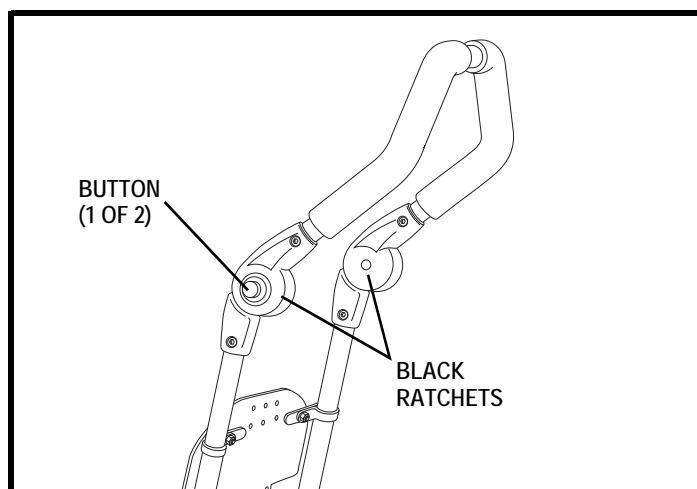

Figure 52. Handlebar Angle Adjustment
1. Press the buttons on the black ratchets on both sides of the handlebar simultaneously. See **figure 52**.